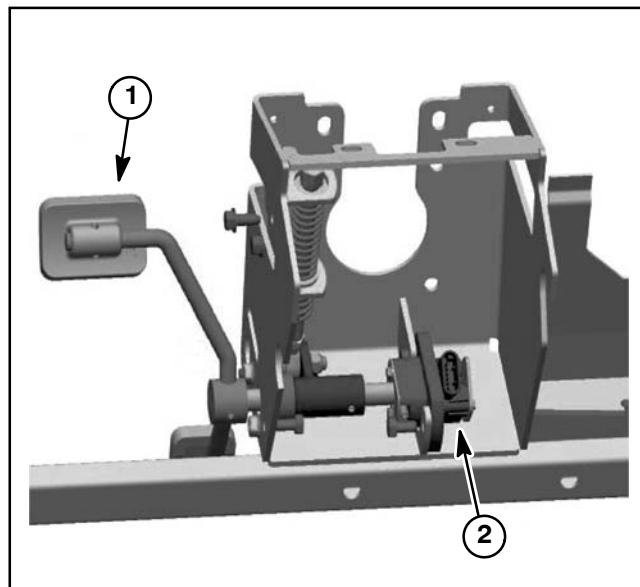

Figure 46
The traction pedal position sensor is connected to the traction pedal assembly (Fig. 46). This position sensor determines the neutral band for the traction pedal, the direction of travel desired by the operator and the traction speed. The position sensor is a single analog, dual digital signal electronic device. The position sensor portion is a variable resistor that provides an analog signal for the TEC controller to determine the desired ground speed based on how far the traction pedal is moved. The traction pedal position sensor also houses two (2) switches that are used to determine the neutral position (deadband) and the indicated direction of travel (forward or reverse). As the traction pedal is depressed, the internal wiper of the position sensor moves and sends the analog signal to the TEC controller to determine machine direction and speed.